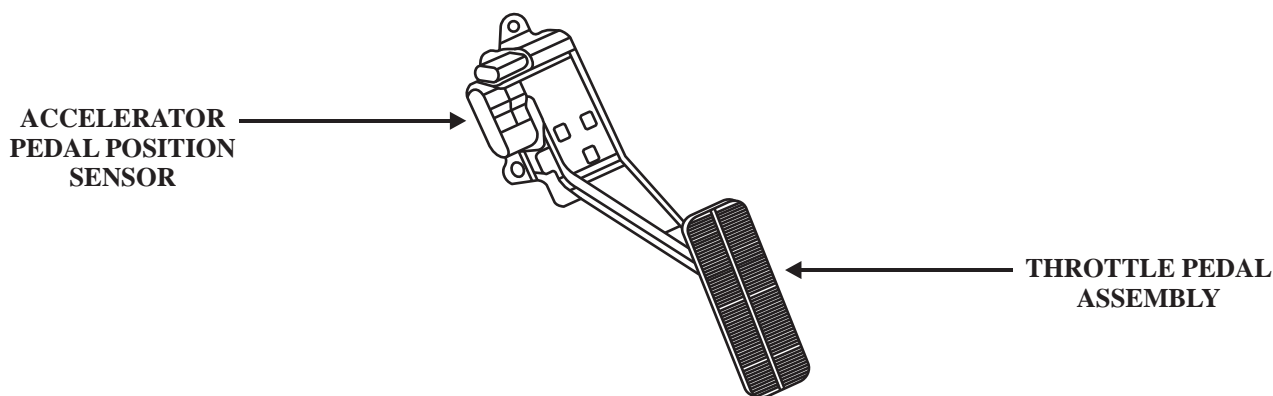

Figure 71
- The **Accelerator Pedal Position Sensor (APPS)** (Refer to Figure 71) contains 3 individual throttle position sensors up to and including the 2002 model year. 2003 and later models have an APP Sensor with one sensor disabled and two functional, this sensor determines pedal angle and sends its signals to the TAC Module and is an integral part of the throttle pedal.
- The Accelerator Pedal Position Sensor is faulty, (Refer to Figure 71).
- The APPS is faulty, (Refer to Figure 71).